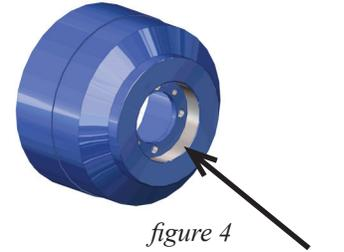

figure 4
10. Place a thin coat of anti-seize paste on the magnet drive hub on the unpainted fit diameter. *See figure 4.*